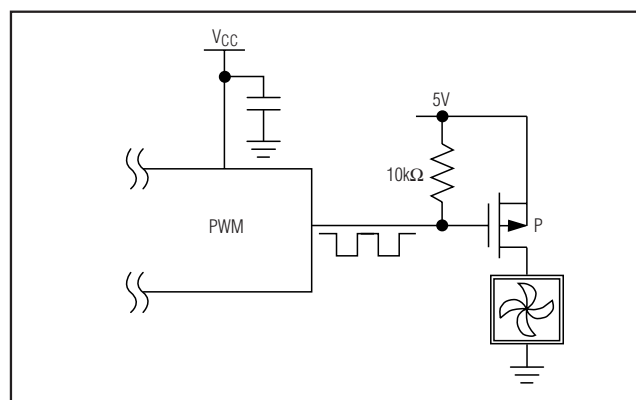

Figure 4. Driving a p-Channel MOSFET for Top-Side PWM Fan Drive
- 1) PWM\_ drives the gate of a MOSFET or the base of a bipolar transistor in series with the fan's power supply. The *Typical Application Circuit* shows the PWM\_ driving an n-channel MOSFET. In this case, the PWM invert bit (D4 in register 02h) is set to 1. Figure 4 shows PWM\_ driving a p-channel MOSFET and the PWM invert bit must be set to zero.